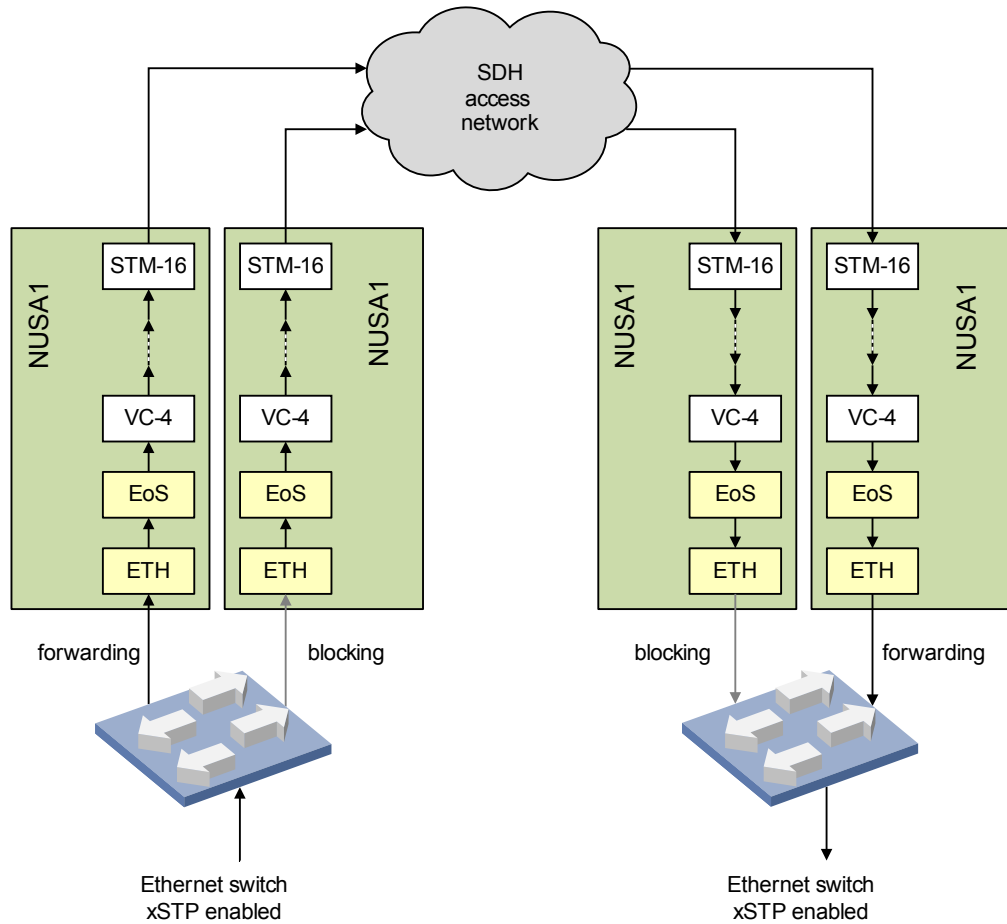

Figure 56: Ethernet protection using an Ethernet switch
*The two NUSA1 units in Figure 56 "Ethernet protection using an Ethernet switch" are **no** equipment protected pair of units.*